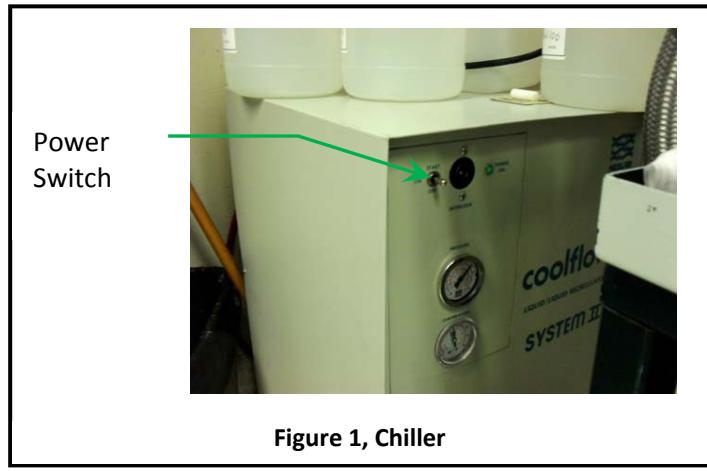

Figure 1, Chiller
| Figure 1, Chiller | 2 |
- 6.6.2 Turn the power switch to start on the chiller. See *Figure 1, Chiller*.